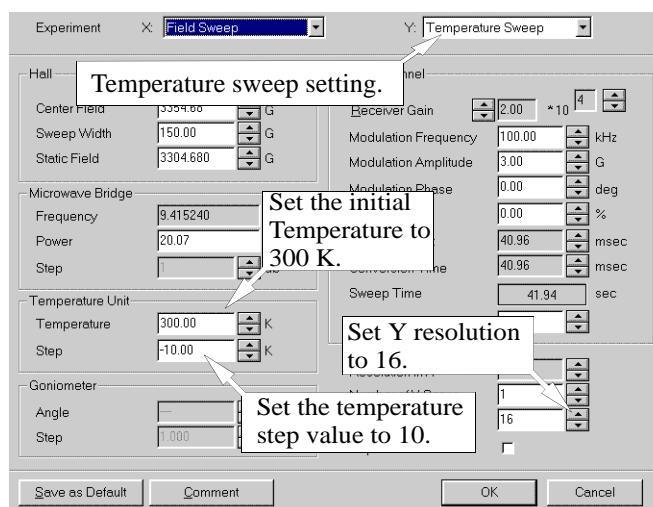

Figure 3-5 Experiment parameters for a temperature sweep experiment.
3. **Set the Experiment Parameters for an automated temperature sweep experiment.** Open the parameters dialog box and set the various parameters so they match those in Figure 3-5. The **Set** value specifies the temperature of the first field scan. The **Step** value determines the change in temperature between each field scan. Here, we have used 300 K as the set temperature, -10 as the **Step** value, and a Y resolution of 16. This provides a temperature sweep from 300 to 150 K with a field scan being taken every 10 K. Click OK when the parameters are set.